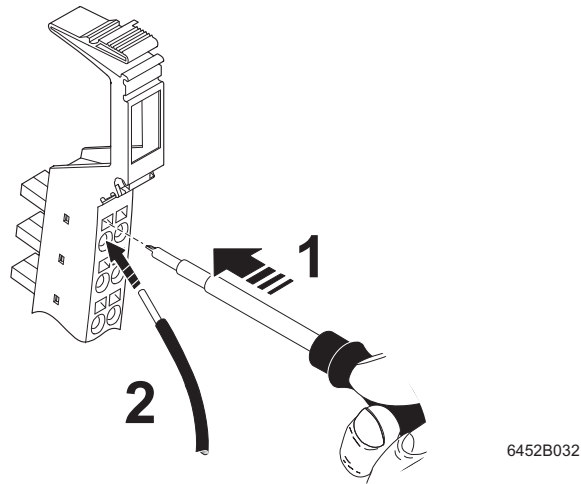

Figure 4-6 Connecting unshielded cables
- Push a screwdriver into the slot of the appropriate terminal point (Figure 4-6, detail 1), so that you can insert the wire into the spring opening.
- Insert the wire (Figure 4-6, detail 2). Remove the screwdriver from the opening. This clamps the wire.